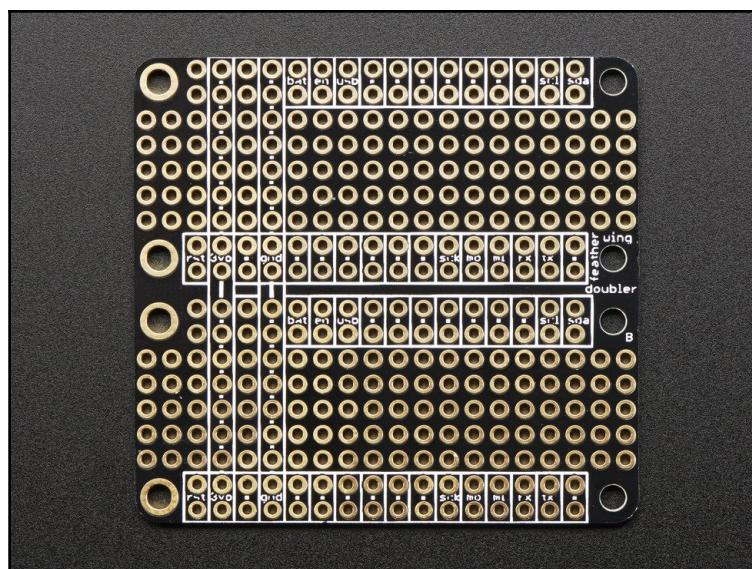

Figure 4.3: The FeatherWing Doubler PCB. Image courtesy of Adafruit Industries—<https://www.adafruit.com>
1. Take the **FeatherWing Doubler** (*Figure 4.3*). The FeatherWing Doubler PCB comes with the following things: